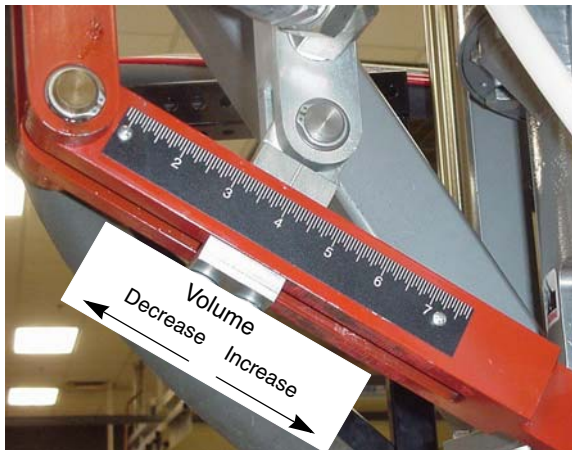
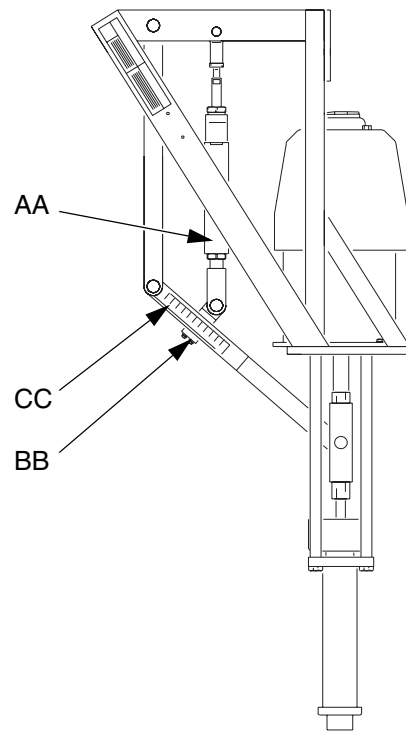

FIG. 6
FIG. 7
To adjust the volume of material displaced by the slave pump (AA), loosen the clamping bolts (BB) on the adjuster at the bottom of the frame. See FIG. 7. Slide the adjuster along the setpoint scale (CC). Move adjuster toward the master pump to increase volume (closer ratio) and away from the master pump to decrease volume (wider ratio). See FIG. 6. Refer to the scale on the pivot arm. It may be necessary to jog the air motor with the air control ball valve to reposition the adjuster. When adjuster is in desired position, tighten the bolts (BB).